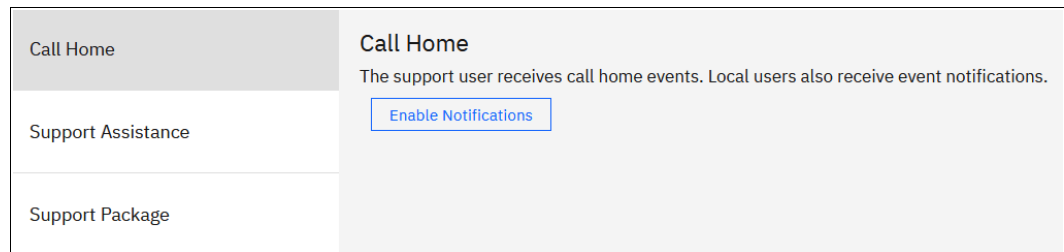

Figure 13-41 Configuring Call Home notifications
2. Select **Call Home**, and then click **Enable Notifications** (see Figure 13-41). For more information, see IBM Documentation.